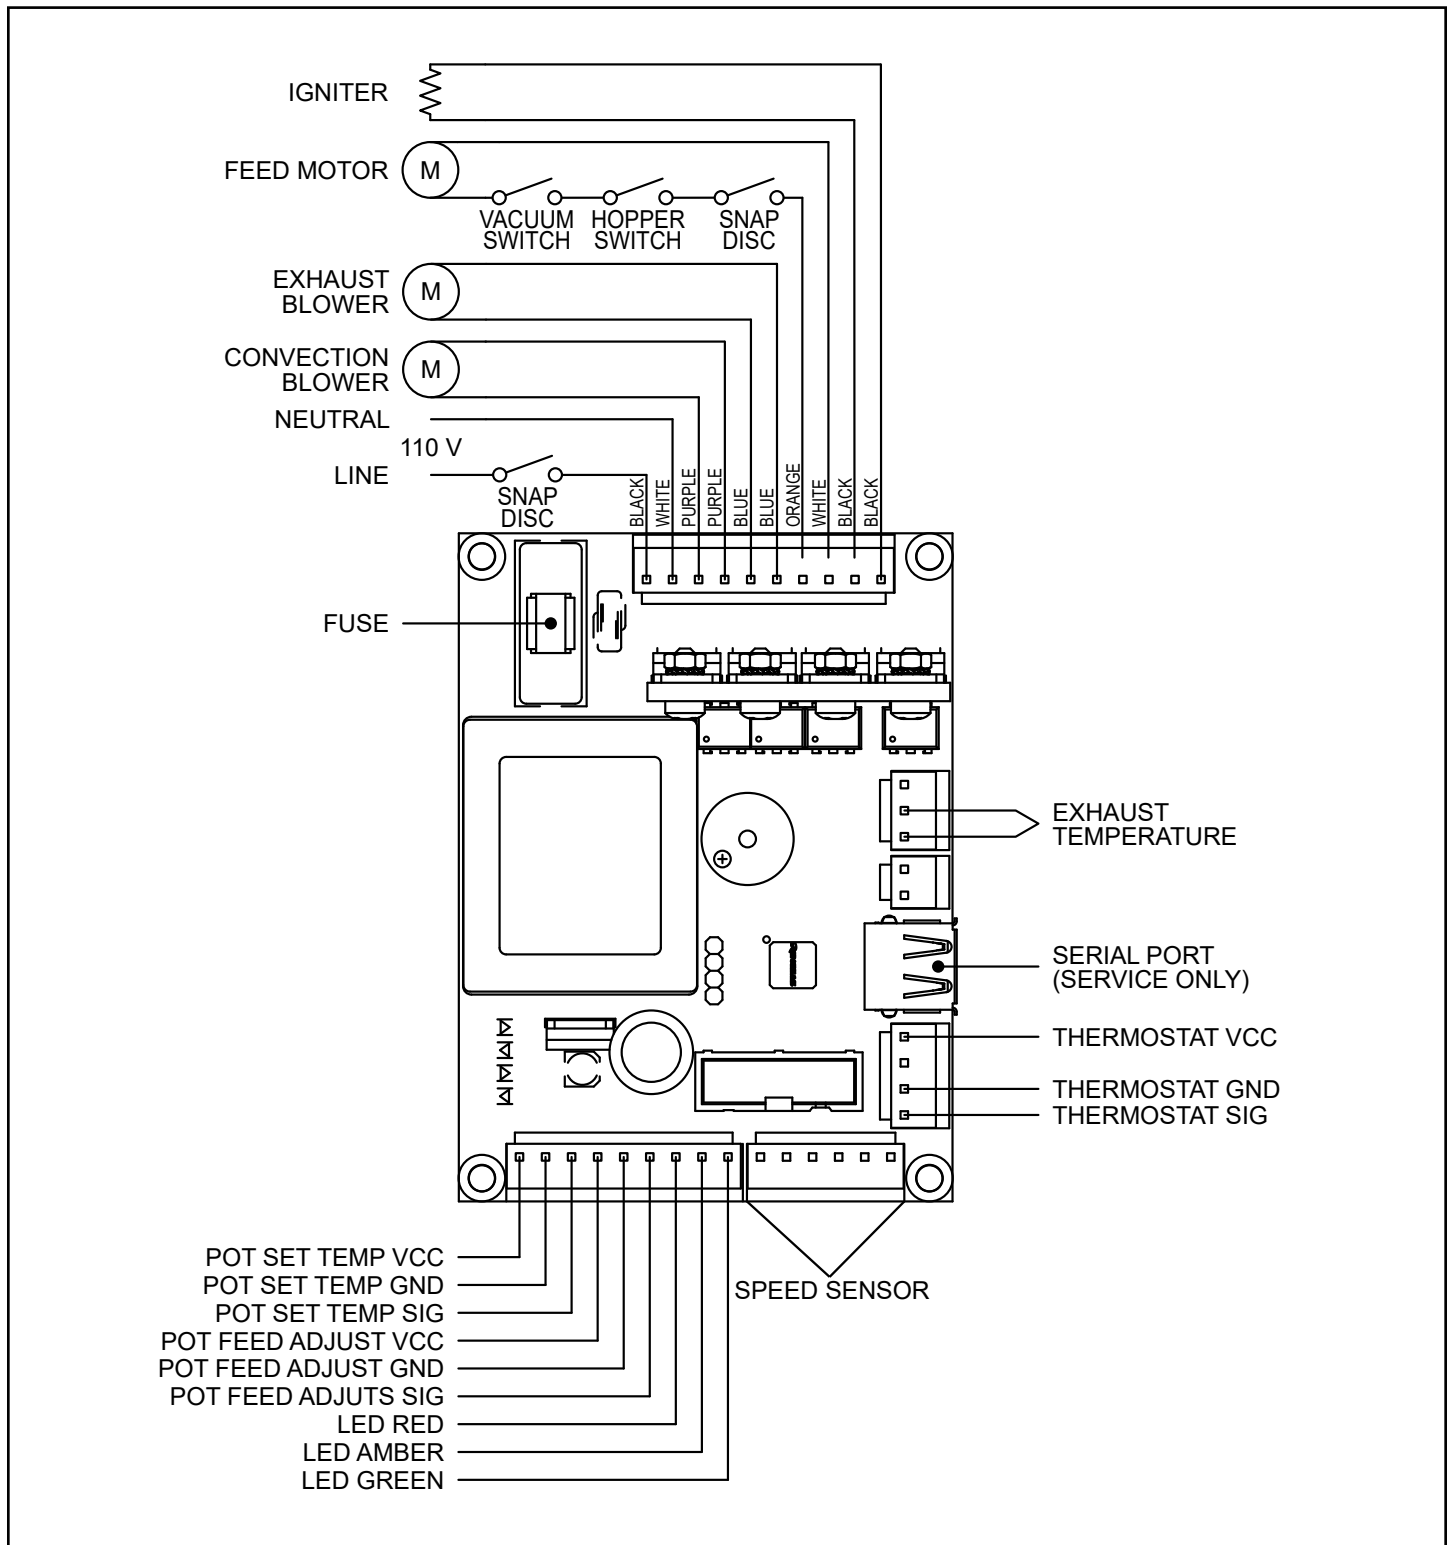

Figure 30.1 - Control Board Schematic
14. Wiring Schematic for Control Board (Figure 30.1)